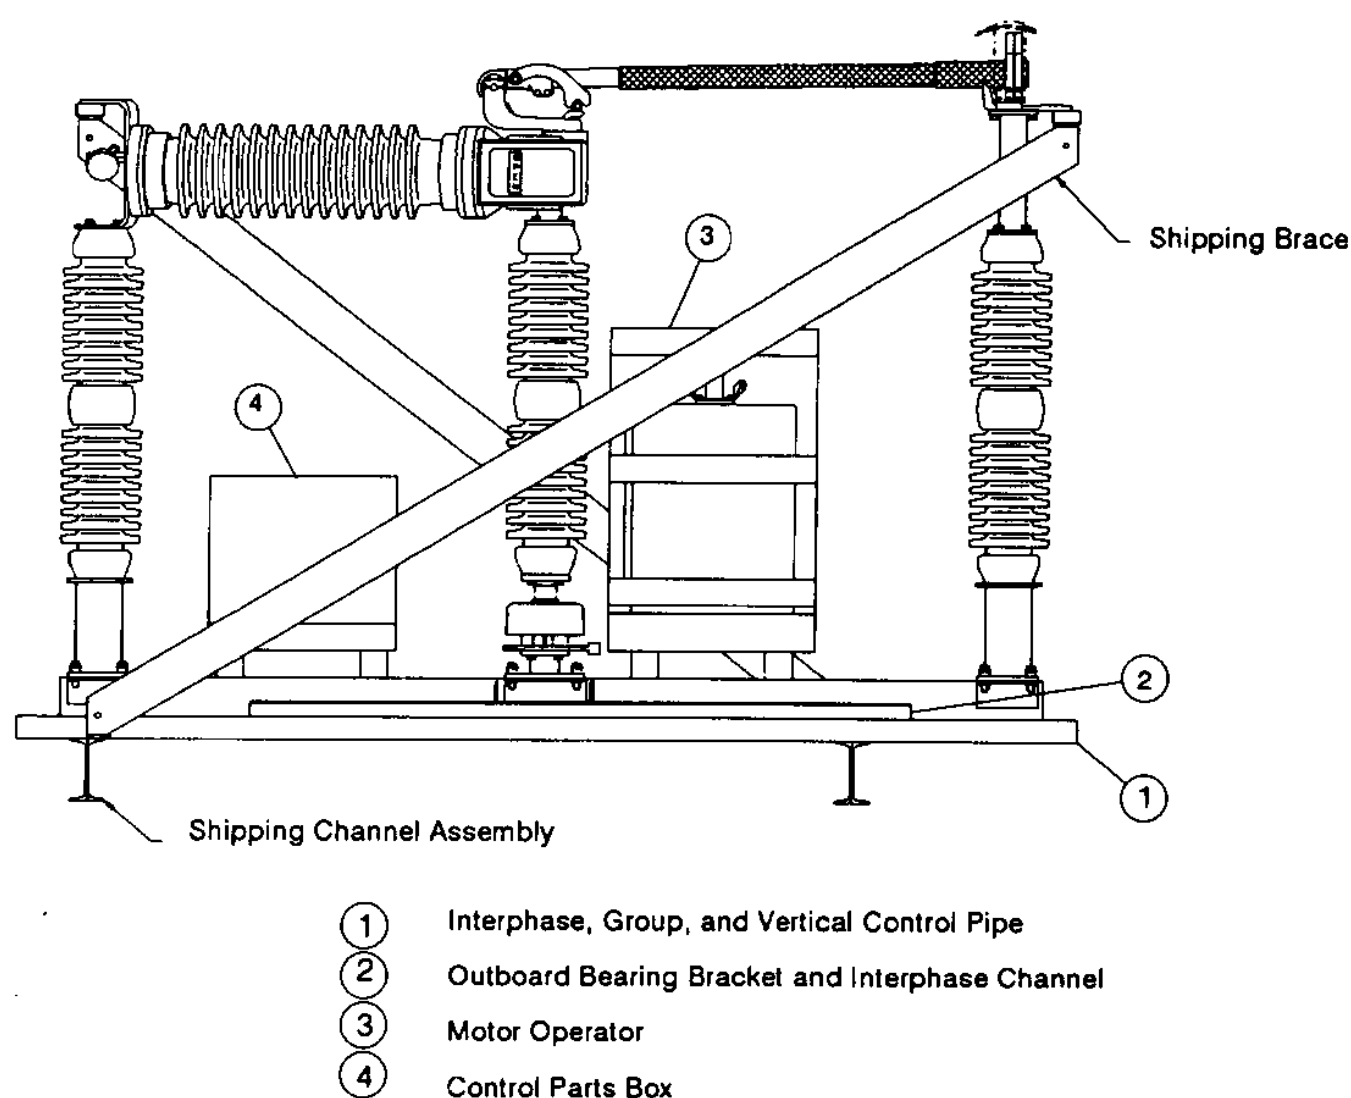

Figure 2 -- Three Pole Shipping Assembly
A. Individual pole units are mounted on shipping channels as shown in Figure 2. This shipping assembly consists of: